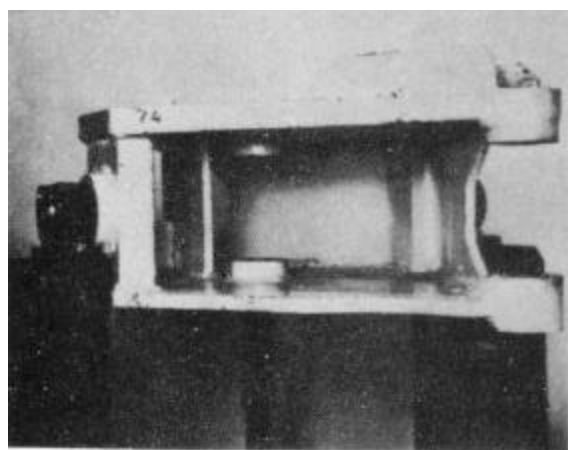

Figure 5-87
3. Remove the bell crank assembly and thrust washer from the axle weldment (Fig. 5-87).